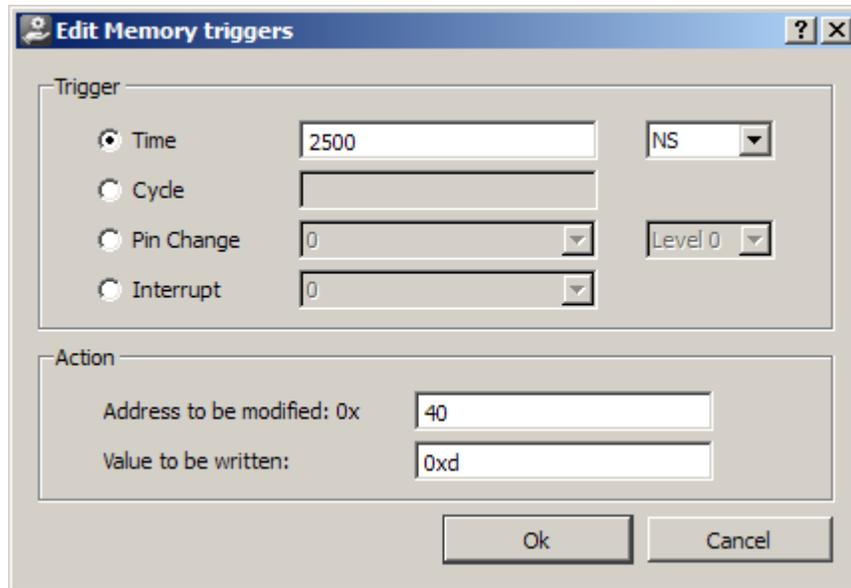

Figure 36. Memory Trigger Editor
- (b) Click Add. The Memory Trigger window appears (see Figure 36).